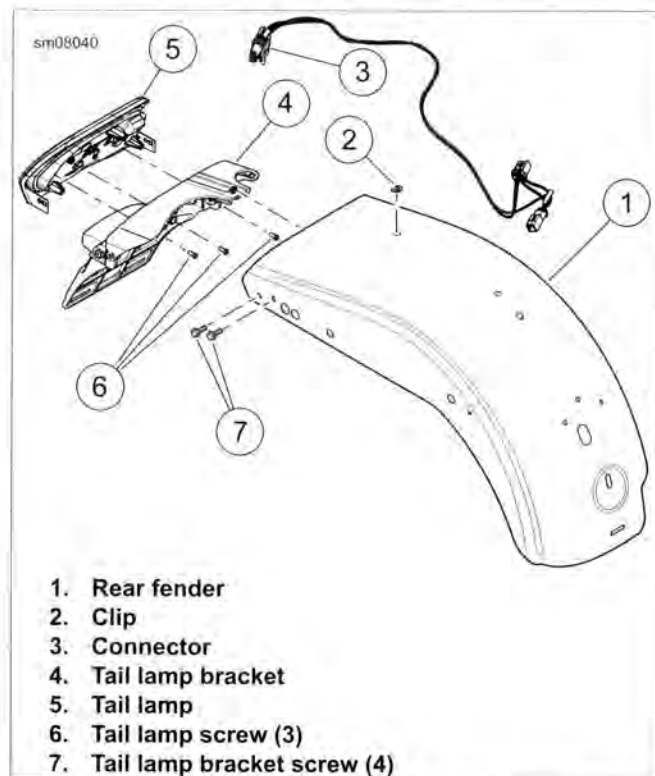
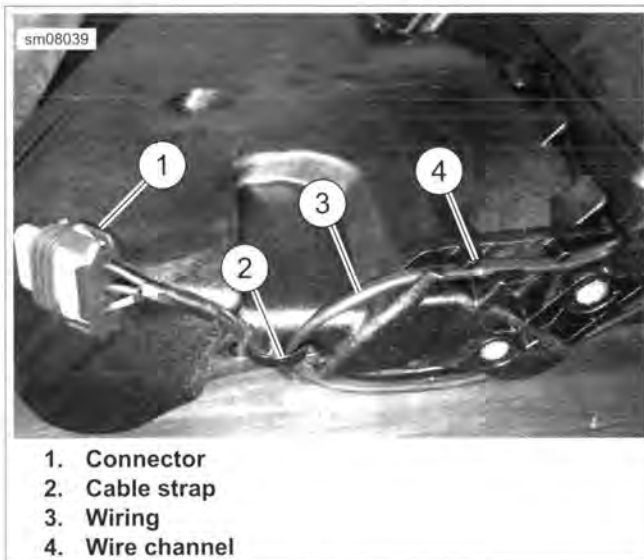

Figure 7-41. Tail Lamp Assembly: FXDF
Figure 7-42. Tail Lamp: FXDF
2. See Figure 7-41. Remove clip (2).
3. Remove tail lamp bracket screws (7).
4. Remove tail lamp screws (6).
5. Disconnect connector (3).
6. See Figure 7-42. Cut cable strap (2). Remove wiring (3) from wire channel (4).
1. See Figure 7-42. Connect connector (1) to tail lamp.
4. See Figure 7-41. Install tail lamp screws (6). Tighten to 13-18 **in-lbs** (1.4-2.0 Nm).
5. Install tail lamp bracket (4) into fender. Install tail lamp bracket screws (7). Tighten to 60-80 **in-lbs** (6.8-9.0 Nm).